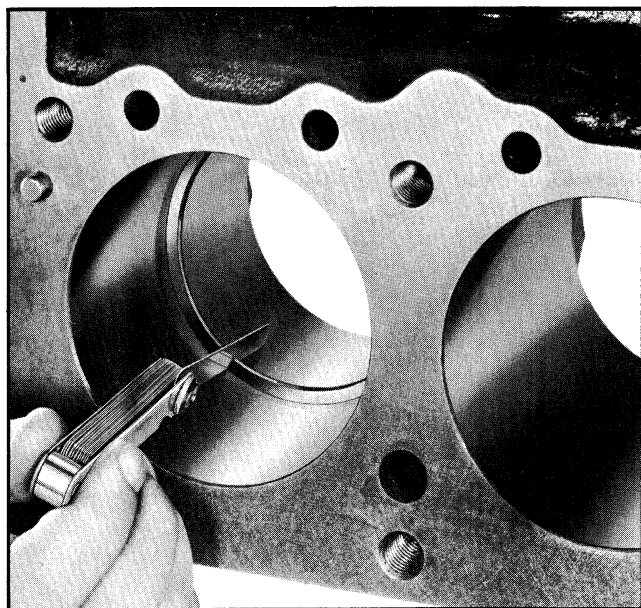

Fig. 6-148 Checking Ring Gap
3. Measure gap between ends of ring with feeler gauge (Fig. 6-148). Gaps should be as follows: